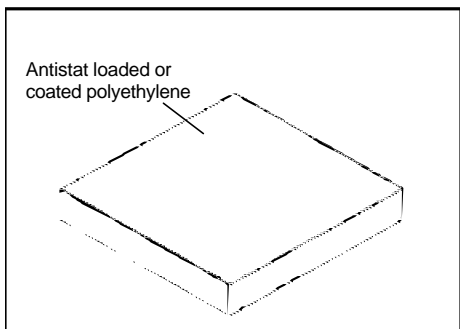

Figure 3. Structure of Pink Poly.
**Construction:** Pink Poly bags consist of polyethylene (plastic) that has been loaded or surface coated with a chemical antistat. See figure 3. The pink color of "pink poly" is only a colorant that was added to differentiate static control materials from standard packaging. (Pink poly is transparent) Many users are now asking for clear dissipative poly bags. In the past, a reactive form of amine was used in the chemical antistat.